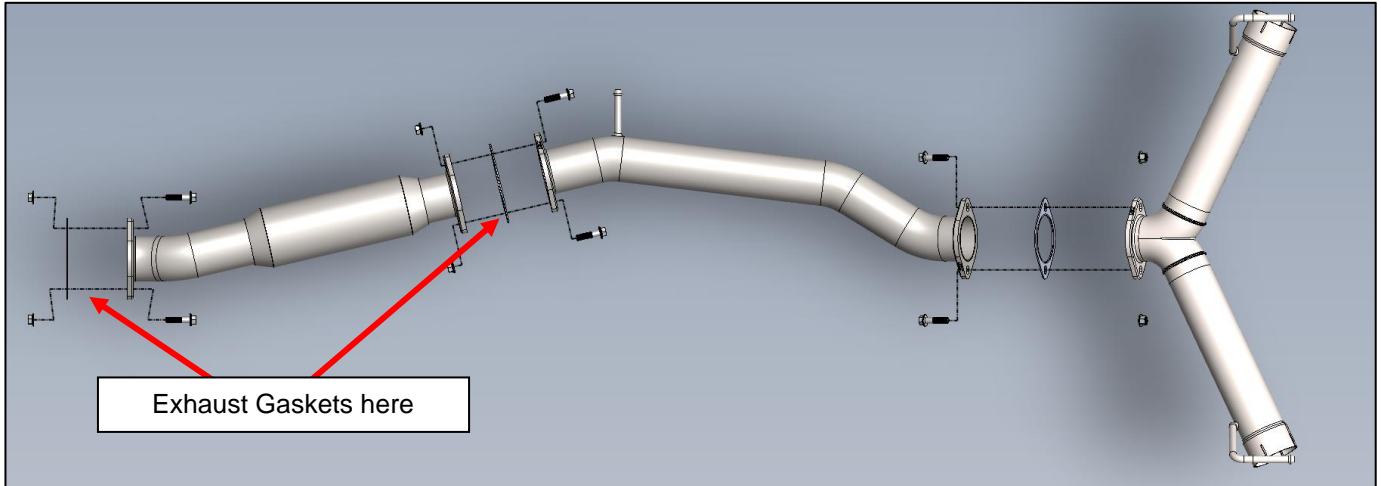

Figure 4
7. Locate the Resonator, (2) two Exhaust Gaskets, (4) four M10 Bolts and (4) four M10 Nuts. Position the Resonator as shown with an Exhaust Gasket between each flange. Loosely secure with the M10 Hardware at each flange. *Figure 4.*